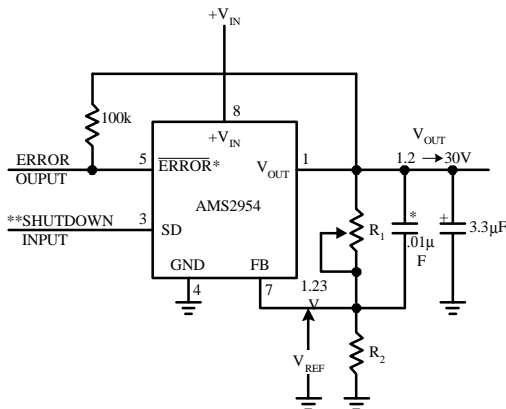

FIGURE 2. Adjustable Regulator
*When $V_{\text{IN}} = 1.3\text{V}$ the error flag pin becomes a high impedance, and the error flag voltage rises to its pull-up voltage. Using V_{out} as the pull-up voltage (see Figure 2), rather than an external 5V source, will keep the error flag voltage under 1.2V (typ.) in this condition. The user may wish to drive down the error flag voltage using equal value resistors (10 k suggested), to ensure a low-level logic signal during any fault condition, while still allowing a valid high logic level during normal operation.
The AMS2954 may be pin-strapped for the nominal fixed output voltage using its internal voltage divider by tying the output and sense pins together, and also tying the feedback and V_{TAP} pins together. Alternatively, it may be programmed for any output voltage between its 1.235V reference and its 30V maximum rating. As seen in Figure 2, an external pair of resistors is required.